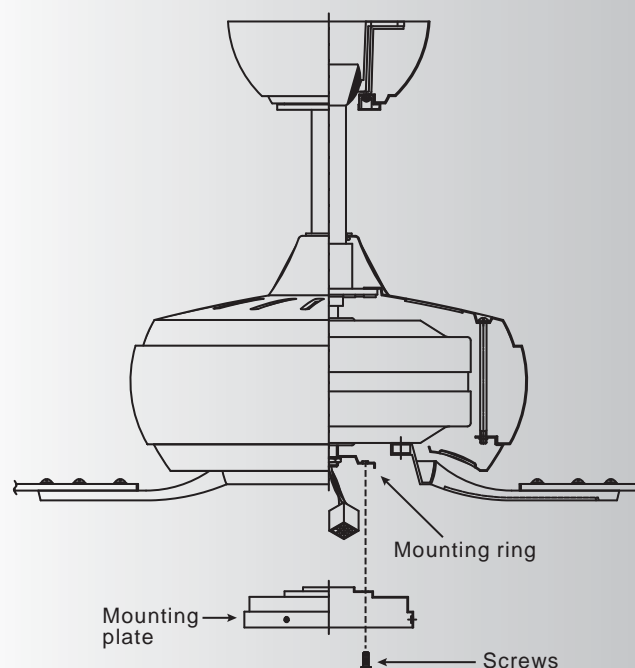

Fig. 17
2. Place the key holes on the mounting plate over the 2 screws previously loosened from the mounting ring, turn mounting plate until it locks in place at the narrow section of the key holes. Secure by tightening the 2 screws previously loosened and the one previously removed. (Fig. 17)